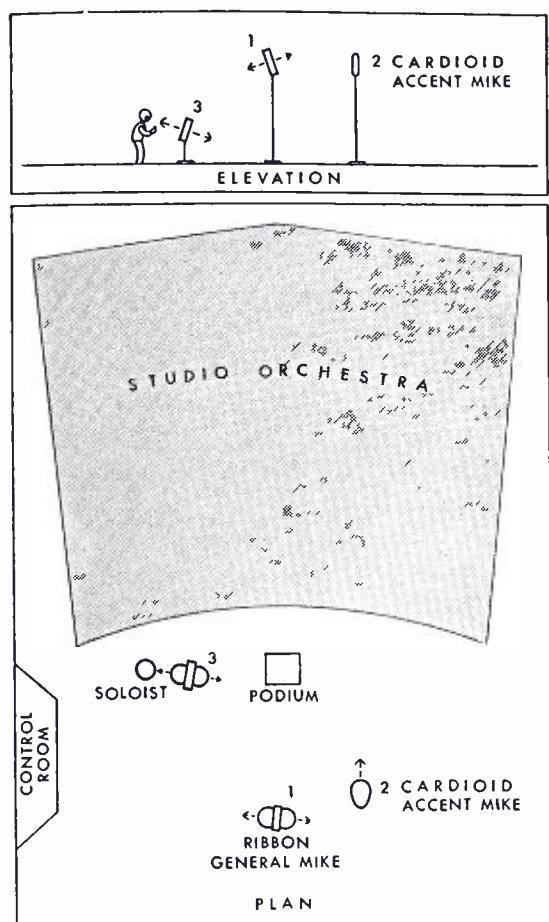

Figure 7—Plan and elevation of overcrowded studio.
(1) Place a bidirectional microphone, such as "1", Figure 7, with its insensitive direction pointing toward the orchestra. In practice this microphone will act as if G_p (see Equations 1 and 2) had a value of $\frac{1}{4}$ to $\frac{1}{3}$.
(2) Place the necessary accentuation microphones in the standard manner except that bidirectional microphones must not be placed too close to the studio wall. Where the crowding is extreme the use of cardioid microphones for accentuation purposes is preferred.
(3) Use the minimum contribution from the accentuation microphones, necessary to obtain the desired effect. Too much accentuation does more damage under overcrowded than under normal conditions, and can easily push the pick-up into the region below the useful liveness range. You then obtain "absence" instead of "presence".